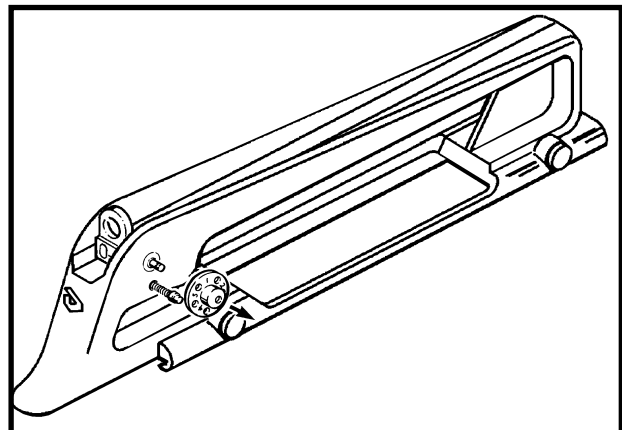

Figure 3-2-66 Removing the Windage Drum
- c. Remove the windage drum, the rear sight detent and rear sight detent spring. See Figure 3-2-66;